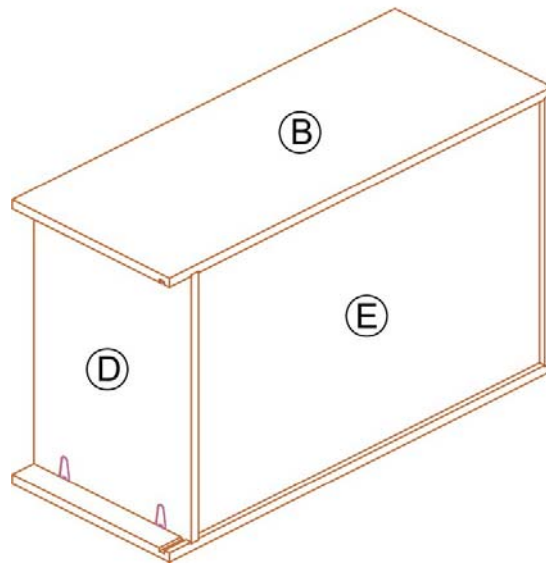

Figure 5
7. Place side panel B, with slots and panel grooves facing cabinet interior onto cabinet assembly aligning CAM fittings with connector studs as shown in **(Figure 5)**. Make sure that the groove in side panel B aligns with the edge of bottom panel D. Tighten all remaining CAM fittings around connector studs.